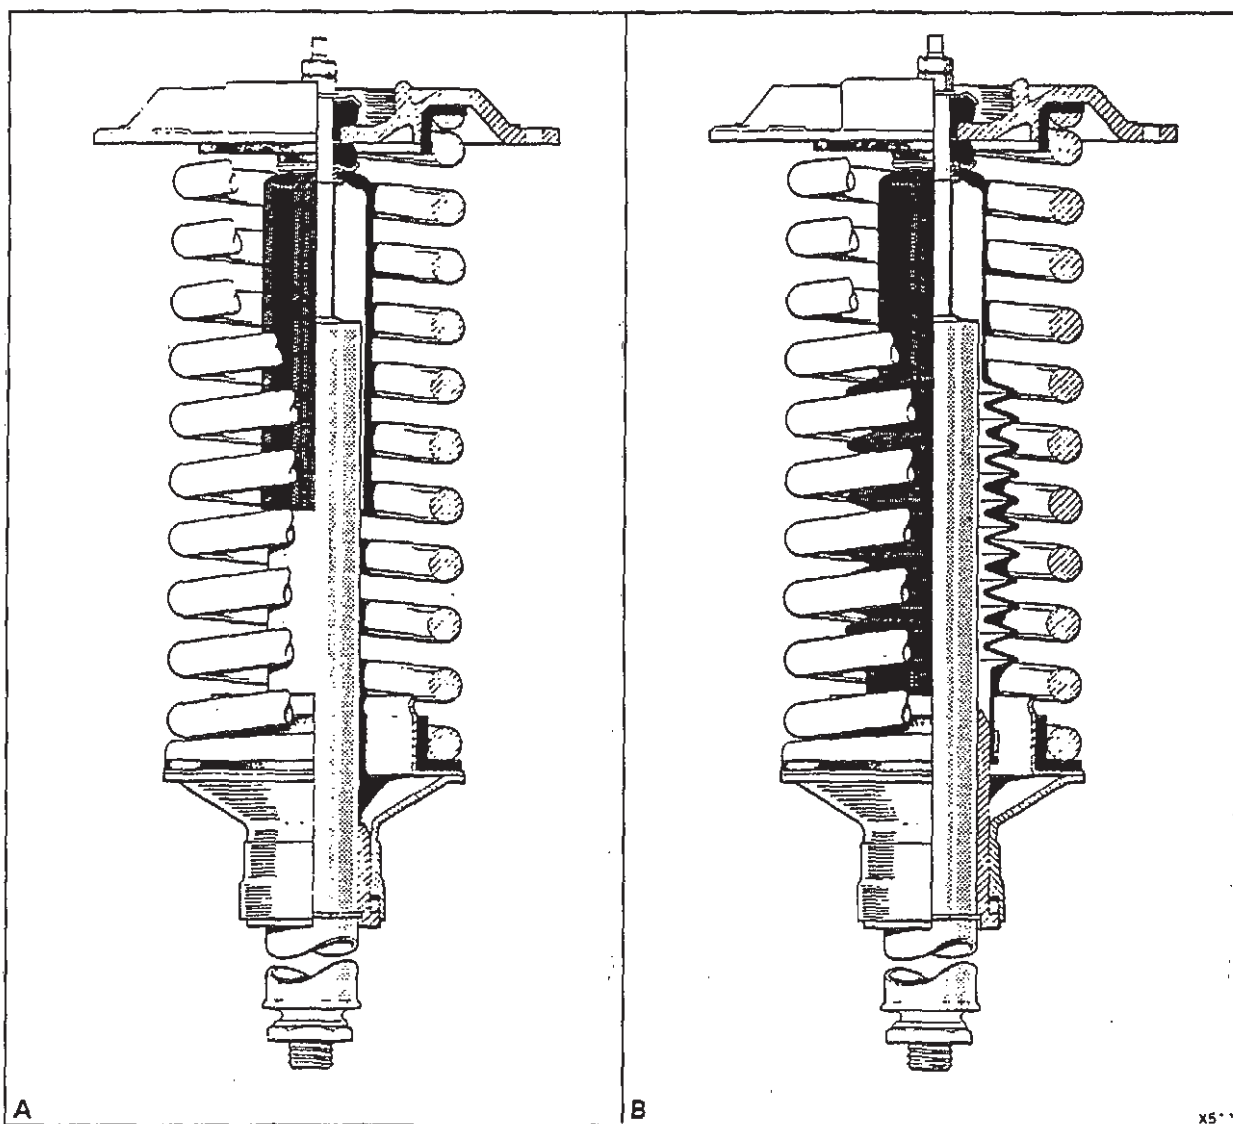

Fig. H3-1 Front shock damper and road spring arrangements
The shock dampers (see fig. H3-1) are of the sealed unit type and no servicing is required. In the event of the damper becoming faulty, it should be discarded and a new damper fitted.
On cars fitted with a convoluted rubber sleeve between the spring plate collar and the upper damper mount (see figs. H3-1 and H3-2) extra care should be taken to avoid damaging the sleeve during damper withdrawal. This sleeve will also prevent the collar being withdrawn from the spring support plate. In the event of the collar having seized to the damper, remove the nuts securing the top of the damper then carefully release and lift the spring from the spring support plate as described in the following operations.
5. Fit the washer onto the damper stem then insert the damper into the spring assembly. Ensure that all the components are correctly located (see fig. H3-1), then fit the top mount rubber, distance piece, cup washer, and plain washer onto the damper stem. Fit and torque tighten the retaining nut and lock-nut.